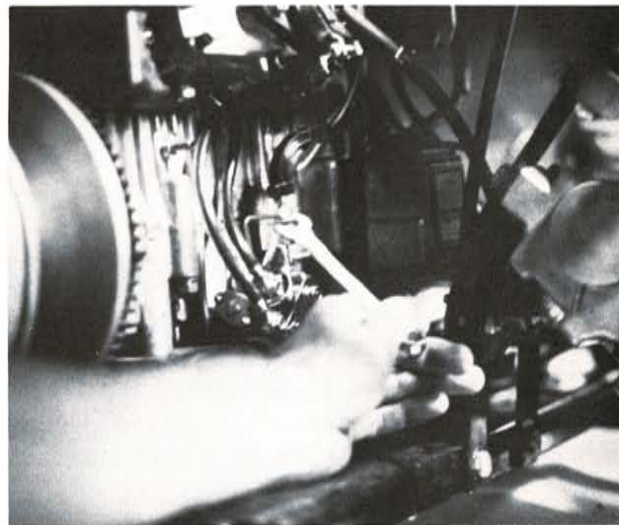

FIG. 4
6. Disconnect oil injection cable, oil line and pulse tube line. Plug oil line to prevent leakage. (Fig. 4)